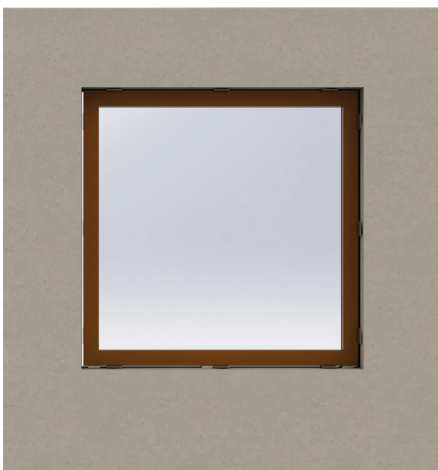

Fig. 5
- A. Set the window in place on top of the shims at the sill, and center in opening. (Fig. 5)